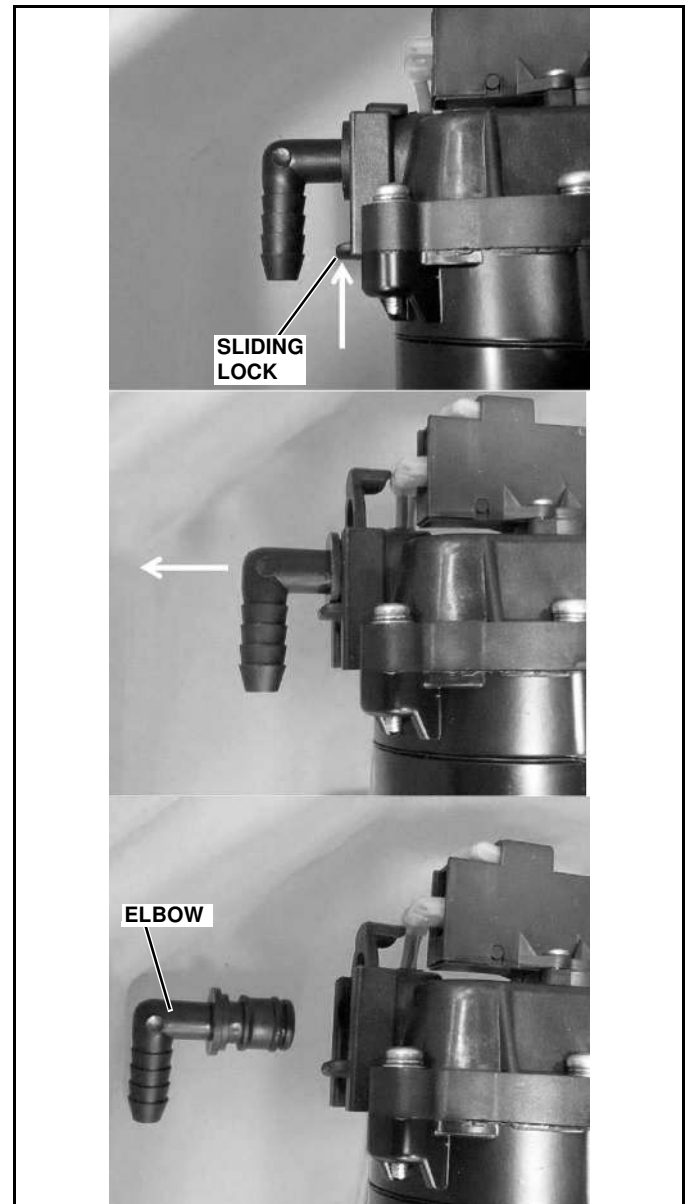

Figure 1-2
3. Place the Elbow Fittings into the pump. Lift up on the sliding lock, push the O-ring end of the fitting into the pump, and slide the lock back down. (See Figure 1-2)